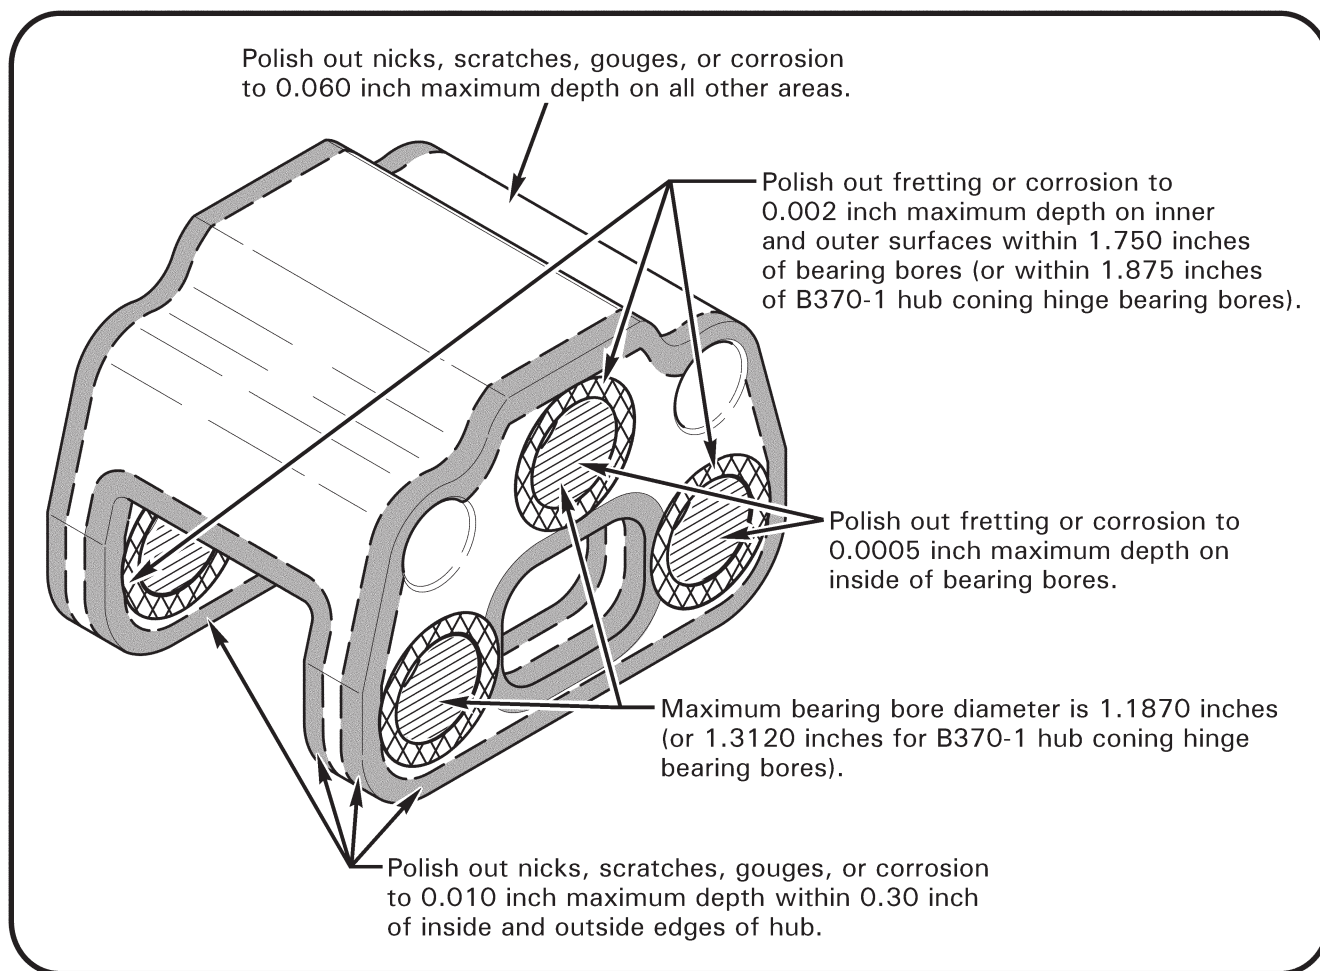

FIGURE 2-17 MAIN ROTOR HUB REPAIR LIMITS
3. Refer to Figure 2-17. If required, polish surfaces using 320-grit or finer aluminum-oxide abrasive paper to 0.25 inch minimum blend radius.